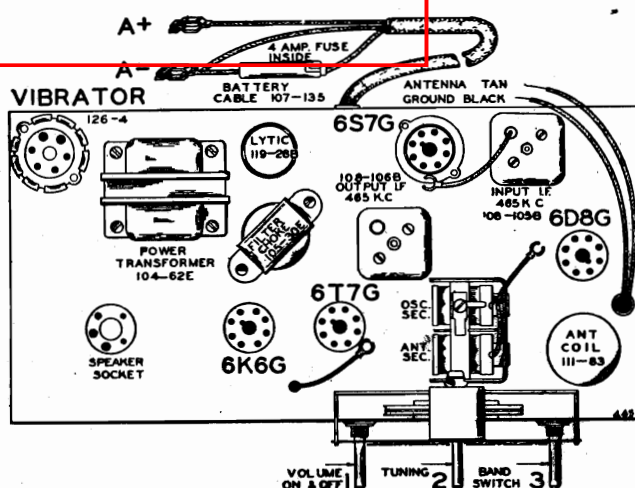

FIG. 1—TOP VIEW
Referring to Fig. 1, connect the battery cable to the storage battery in the following manner:
These I.F. transformers have two adjustments, both of which are accessible from the top of chassis (see top view, Fig. 1). With volume control full on, (the extreme right of its rotation), the band changing switch in the broadcast position, (extreme left of its rotation), and with the variable condenser in its minimum capacity position, plates entirely out of mesh, make the following adjustments:
- Set external oscillator to 1750 K.C. and adjust broadcast series pad (Adjustment F) to resonance by rotating antenna trimmer (Adjustment A) to resonance; also adjust prescaler trimmer which is mounted on the top of the rear section of the three gang variable tuning capacitor (Adjustment B) to resonance (see Fig. 1, top view).
- Re-set external oscillator to 1400 K.C. and adjust broadcast series pad (Adjustment F) to resonance by rotating antenna trimmer (Adjustment A) to resonance; also adjust prescaler trimmer which is mounted on the top of the rear section of the three gang variable tuning capacitor (Adjustment B) to resonance (see Fig. 1, top view).
- Set external oscillator to 1720 K.C. and adjust broadcast series pad (Adjustment F) to resonance by rotating antenna trimmer (Adjustment A) to resonance; also adjust prescaler trimmer which is mounted on the top of the rear section of the three gang variable tuning capacitor (Adjustment B) to resonance (see Fig. 1, top view).